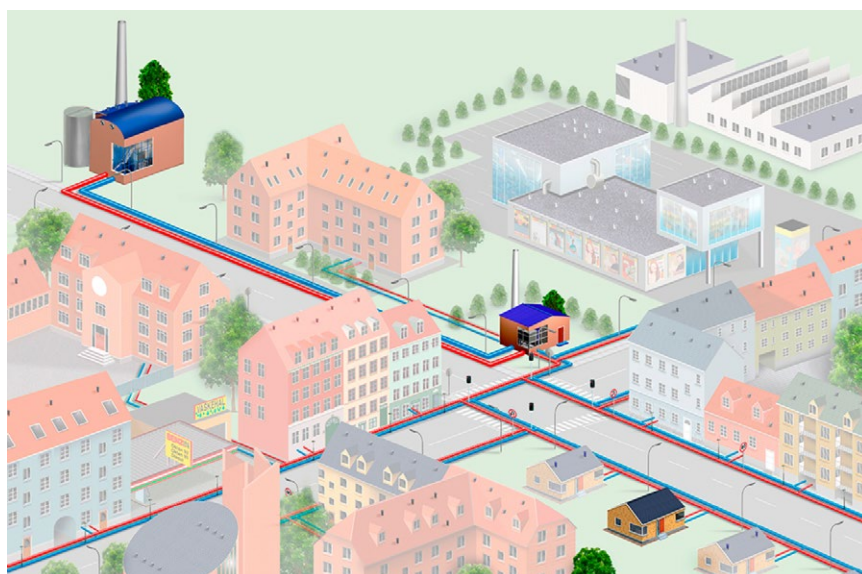

Figure 1: Principle of a district heating system (By kind permission of Fjernvarmeskolen.dk).
District Heating (DH) is a system that transfers heat from a heat source by means of a water-based system to many users. Heat is transported through an underground pipe network, with the water at temperatures of 80 °C. At the consumer end, heat is transferred to the central heating system of the user by a heat exchange unit. Once the DH water has transferred its heat load it returns to the heating plant to be heated again and begin another cycle (Figure 1).